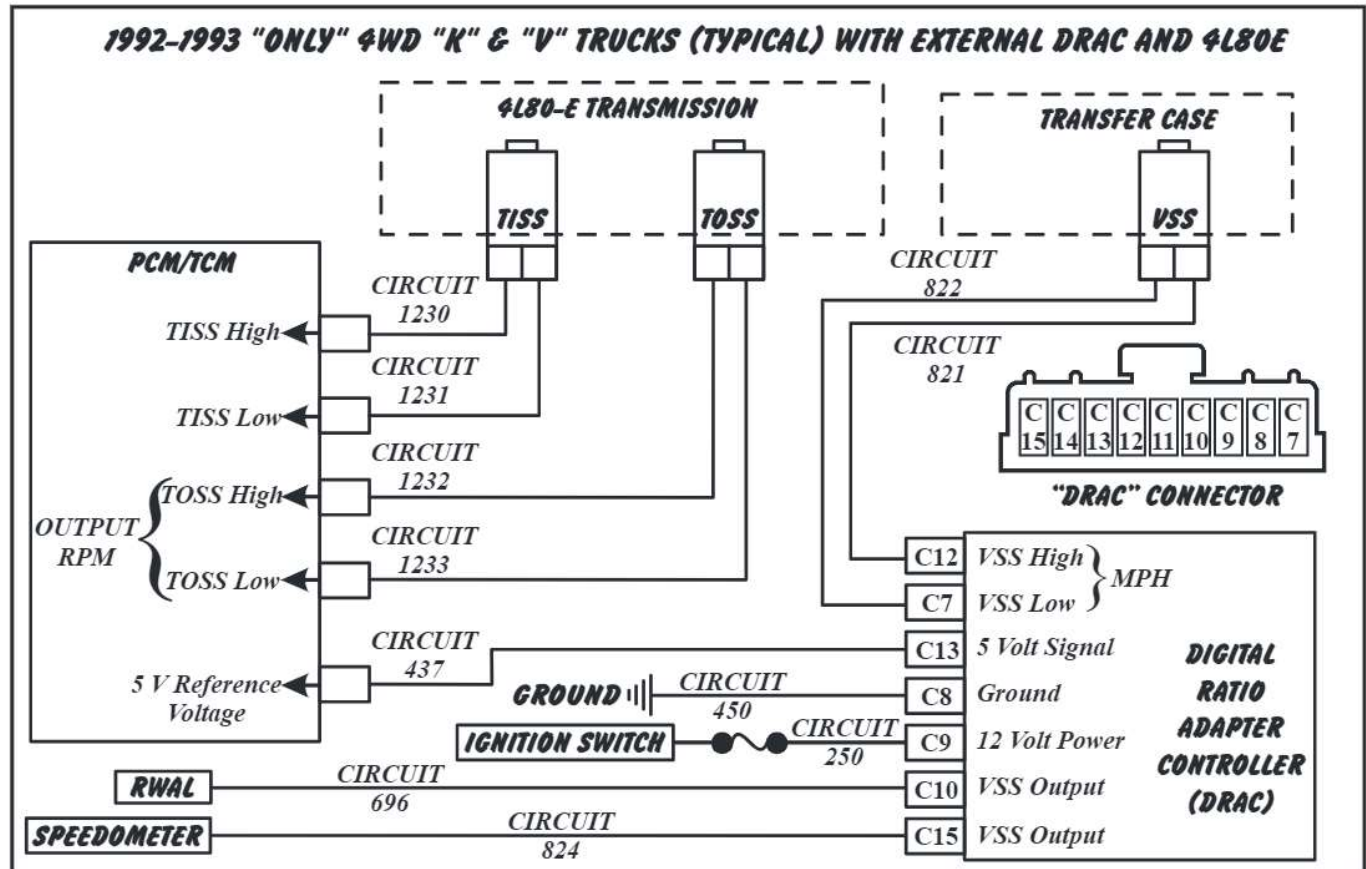
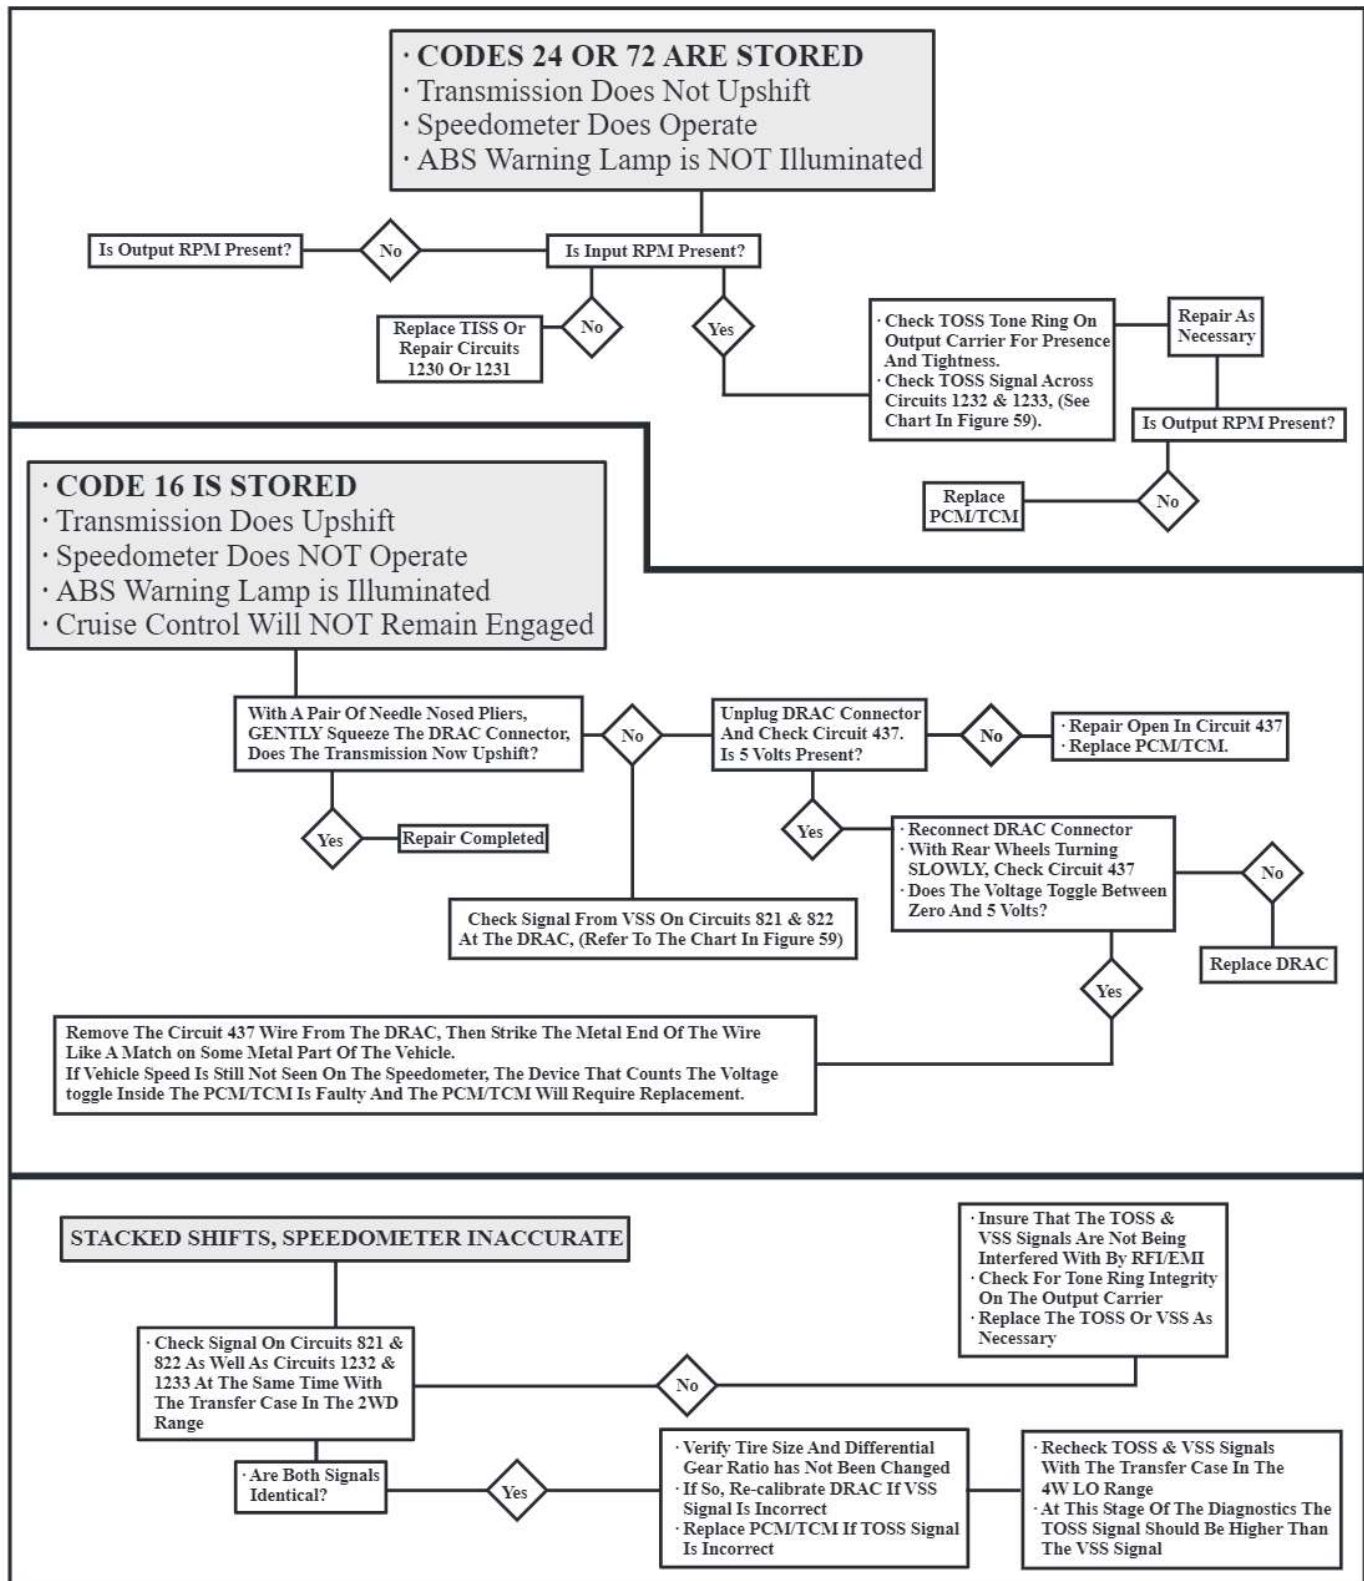
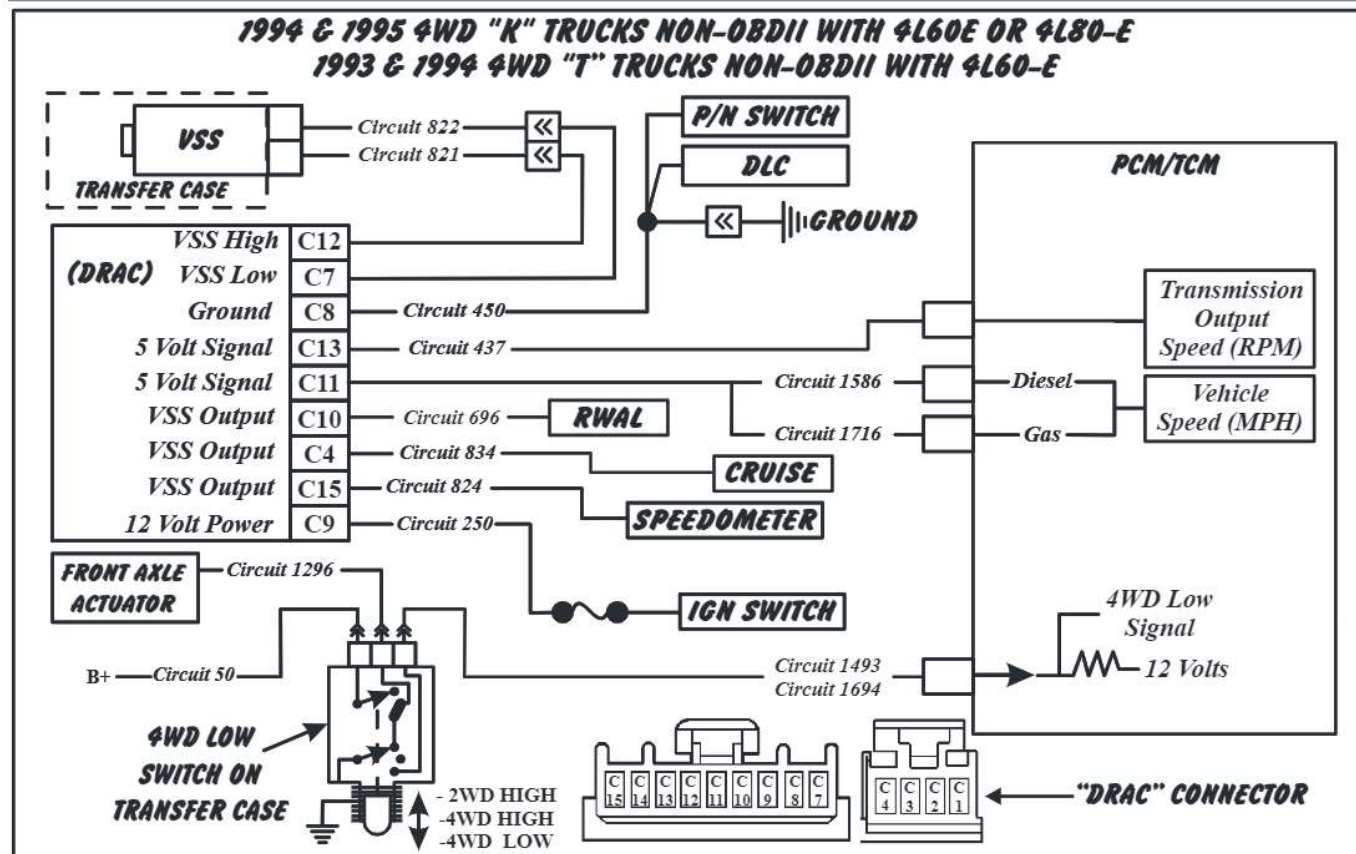

Figure 58
Figure 60
Figure 62
- A short or open in circuit 437, (Refer to Figure 58).
- A faulty ignition switch or blown fuse causing a loss of power to the DRAC, on Circuit 250, (Refer to Figure 58).
- A poor DRAC ground Circuit 450, (Refer to Figure 58).
- A fault in the Vehicle Speed Sensor (Transfer Case), its wiring (Circuits 821 or 822) or connector, (Refer to Figure 58 and the Sensor Value Chart in Figure 59).
- A faulty Output Shaft Speed Sensor (Rear of Transmission Case), or Circuits 1232 or 1233, (Refer to Figure 58 and the Sensor Value Chart in Figure 59).
- The schematic in Figure 58 covers 1992 to 1993 vehicles, but the 1991 "K" truck that has the "DRAC" located inside the speedometer cluster is diagnosed in the same way as the external "DRAC", the circuit numbers are the same as well. The diagnostic tree is seen in Figure 60.
- A short or open in circuit 437, (Refer to Figure 62).
- The PCM is not sending 5 volts on circuit 437, (Refer to Figure 62), or does not read the voltage toggle between 0 and 5 volts, (Refer to Figure 53 for computer locations).
- A faulty ignition switch or blown fuse causing a loss of power to the DRAC, on Circuit 250, (Refer to Figure 62).
- A poor DRAC ground Circuit 450, (Refer to Figure 62).
- A fault in the Vehicle Speed Sensor (Transfer Case), its wiring (Circuits 821 or 822) or connector, (Refer to Figure 62 and the Sensor Value Chart in Figure 59).
The "DRAC" diagnostics in Figure 62 and the diagnostic trouble tree in Figure 60 can be used for the vehicles listed below.
- The VSS system seen in Figure 62 is also used in the NON-OB-D-II Hummer H1. Although Hummer uses their own circuit numbers, the system operates and is diagnosed exactly the same as a 1994-95 GM "K" truck, including the Four Wheel Drive LOW Switch you see in Figure 62.